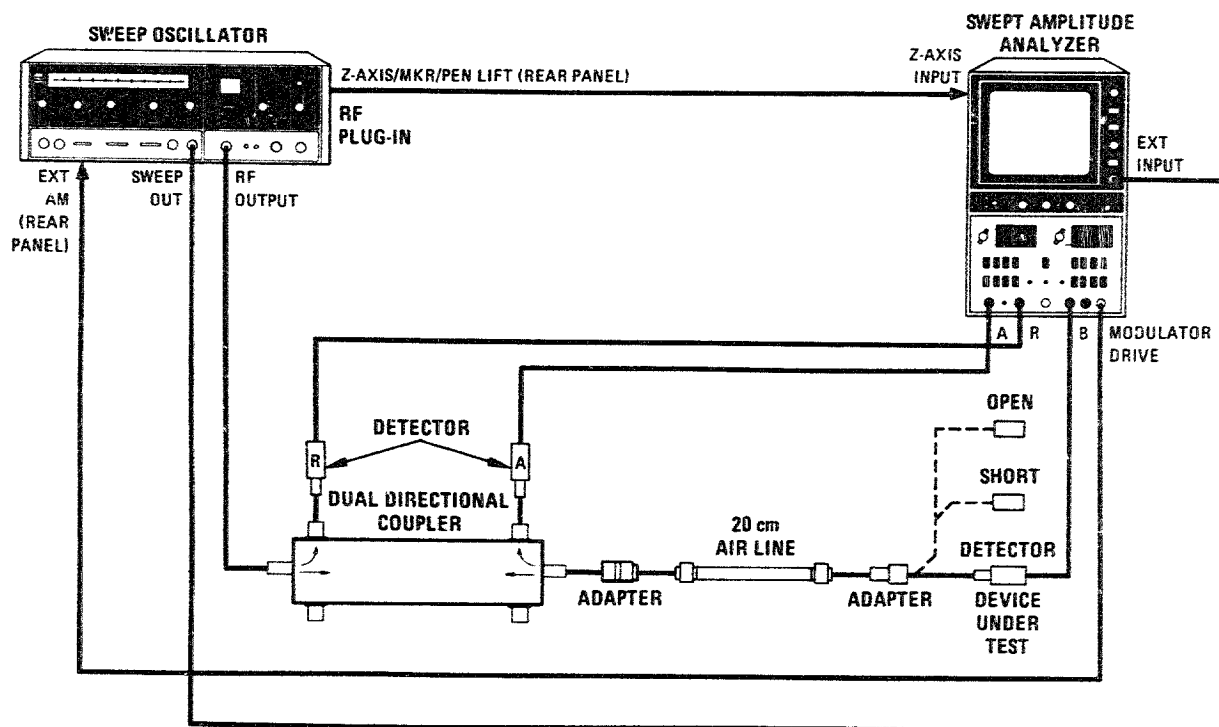

Figure 4-1. Return Loss Test Setup for Measurements from 100 MHz to 18 GHz
1. Connect equipment as shown in Figure 4-1 using HP 86290A RF Plug-in and the 11692D dual directional coupler. Connect the short to the TEST port.
15. Set up the equipment as shown in Figure 4-1 with the HP 86222A RF Plug-in and the HP 778D coupler with the short connected to the test port. The 20 centimeter airline is not required for measurements in this frequency range.